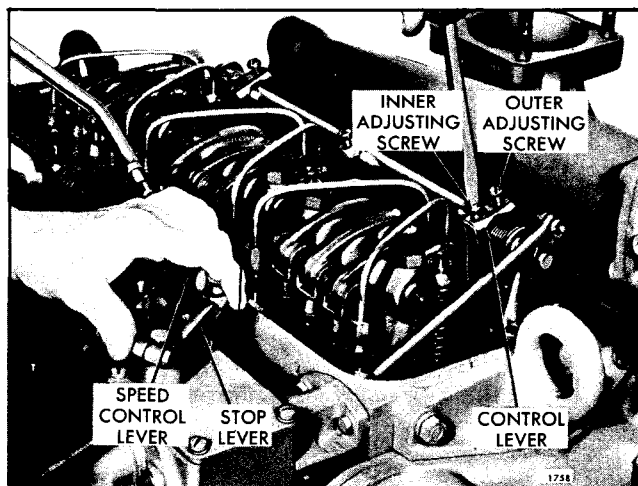

Fig. 2 - Positioning No. 1 Injector Rack Control Lever
8. Hook the torsion retracting spring on the special cover screw and the stop lever (Fig. 2).
Adjust the No. 1 injector rack control lever (Fig. 2) first, to establish a guide for adjusting the remaining injector rack control levers.
1. Loosen all of the inner and outer adjusting screws (Fig. 2). Be sure all of the injector rack control levers are free on the injector control tube.